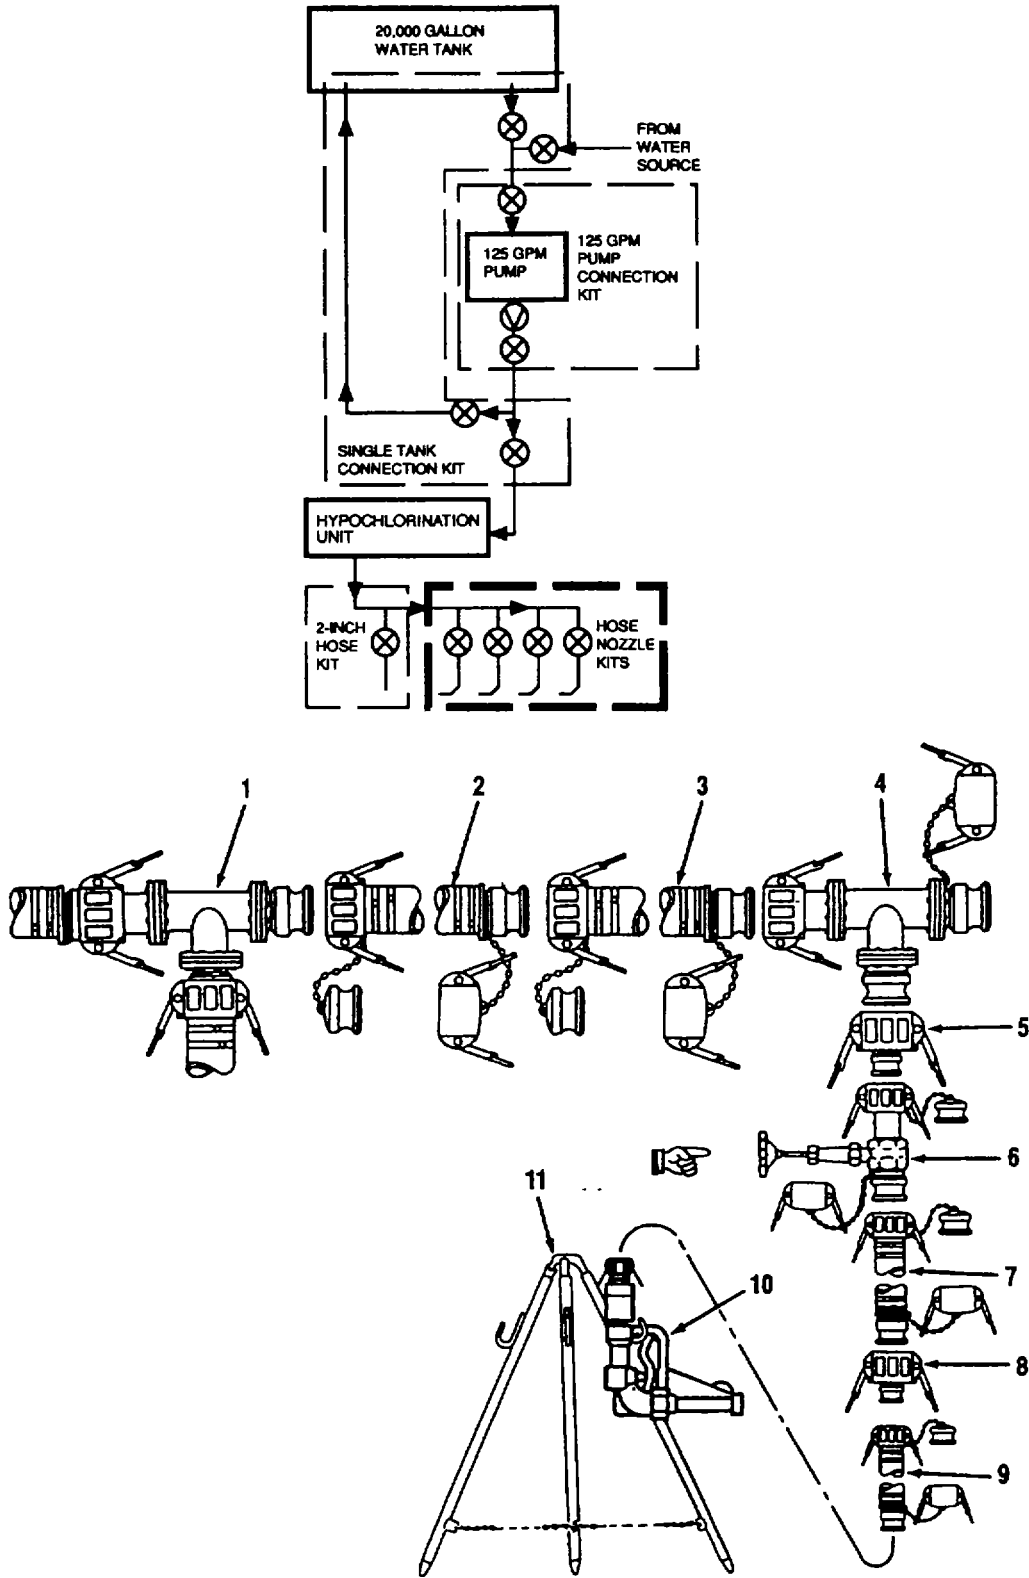

Figure 2-11. Hose Nozzle Connection Kit Disassembly
- b. Disassemble Hose Nozzle Connection Kits. Refer to Figure 2-11.